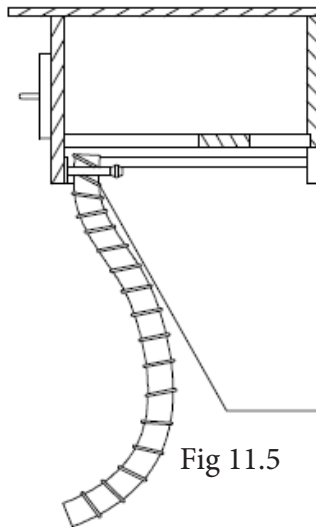
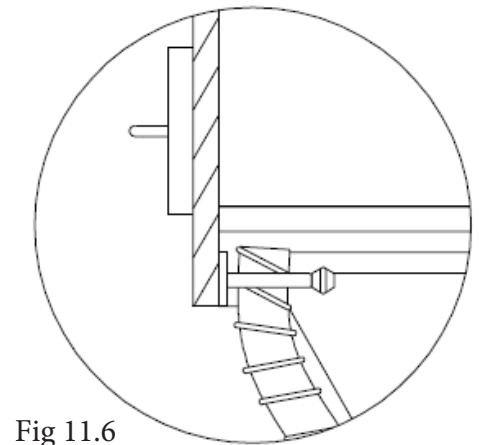

Fig 11.5
Fig 11.6
2. Once the Umbilical is held in place (Fig 11.5) tighten the locking screw on the Hose Clamp to secure the Umbilical (Fig 11.6).